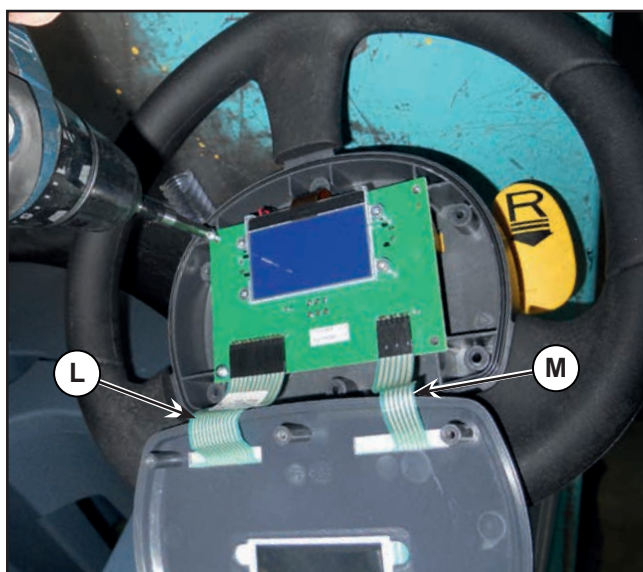

Figure 20:
3. Carefully lift the User interface controller (N, Figure 20) and remove it from the cover (O).